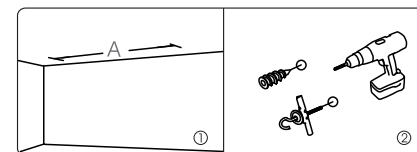

Figure 12
1. To drill two same holes with an electric drill horizontally with wall, then fasten hangers(unprovided) onto the ceiling. (Figure 12)